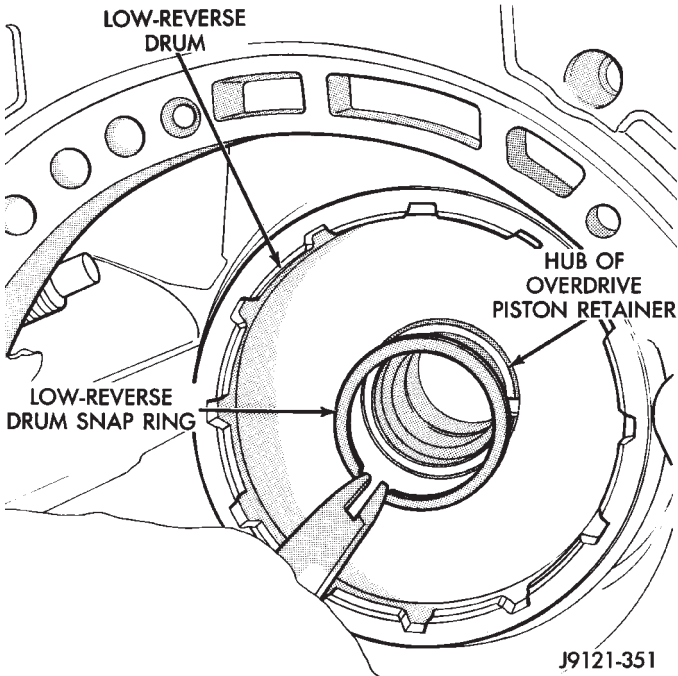

Fig. 145 Removing Low-Reverse Drum Snap Ring
(36) Remove low-reverse drum snap ring (Fig. 145).